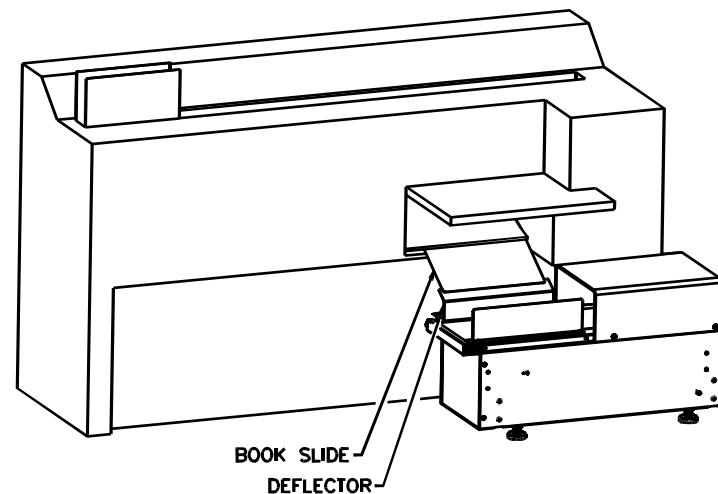

Figure 2-5. Book Slide Placement
3. Place the book slide (56480) under the binder's book slide and set the bracket end of the conveyor's book slide against top edge of the deflector (56415) as shown in Figure 2-5.